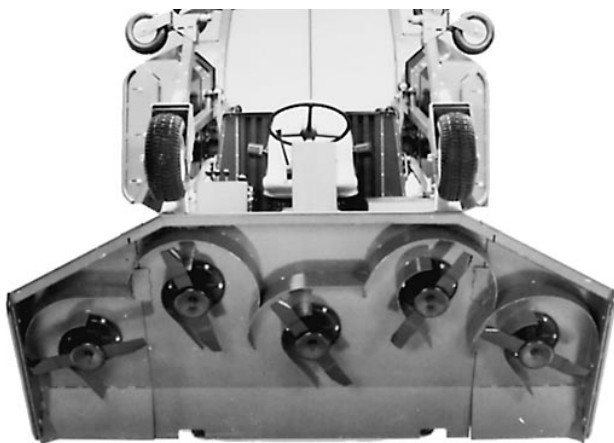

Figure 56
Note: Although not needed for normal maintenance procedures, the front cutting unit can be pivoted (tilted) to a fully upright position (Fig. 56). Should you desire to tilt the cutting unit, proceed as follows:
6. Use at least one other person to tilt the cutting unit. Grasp the front of the unit and lift it to an upright position (Fig. 56).